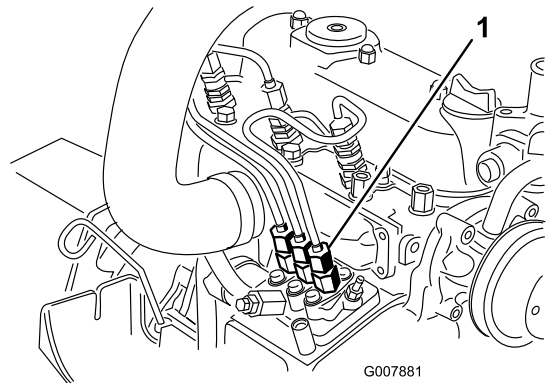

Figure 41
1. Place a rag under the pipe connection coming from the injection pump to the No. 1 injector nozzle as illustrated in Figure 41.